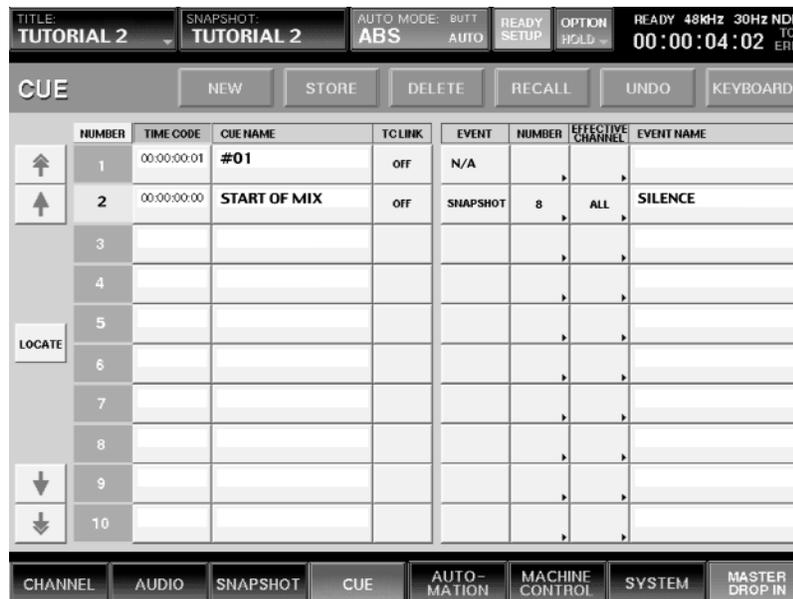

Figure 2
- 3 Call up the Cue window by pressing the CUE menu tab. Cue 1 should be left as is because it serves an important purpose in automated mixing (see Tutorial 3 on page T3-1 in this guidebook for more information). Therefore, press the NEW button, rename the new CUE 2 "START OF MIX" and assign it the "SILENCE" snapshot. Set TC LINK to OFF (See Figure 2)